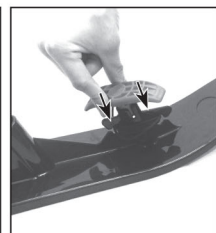

Fig. 20
22. Insert the handle to the center point of the safety catch and turn it clockwise to lock the handle. (see Fig. 20)